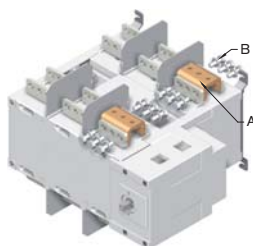
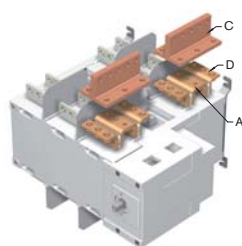

Fig.1
Fig.2
- connection between the two power terminals from a same pole for 2000 to 3200 A ratings (Fig. 1 and Fig 2),
Top or bottom flat connection - Fig. 1
Top or bottom edgewise connection - Fig. 2